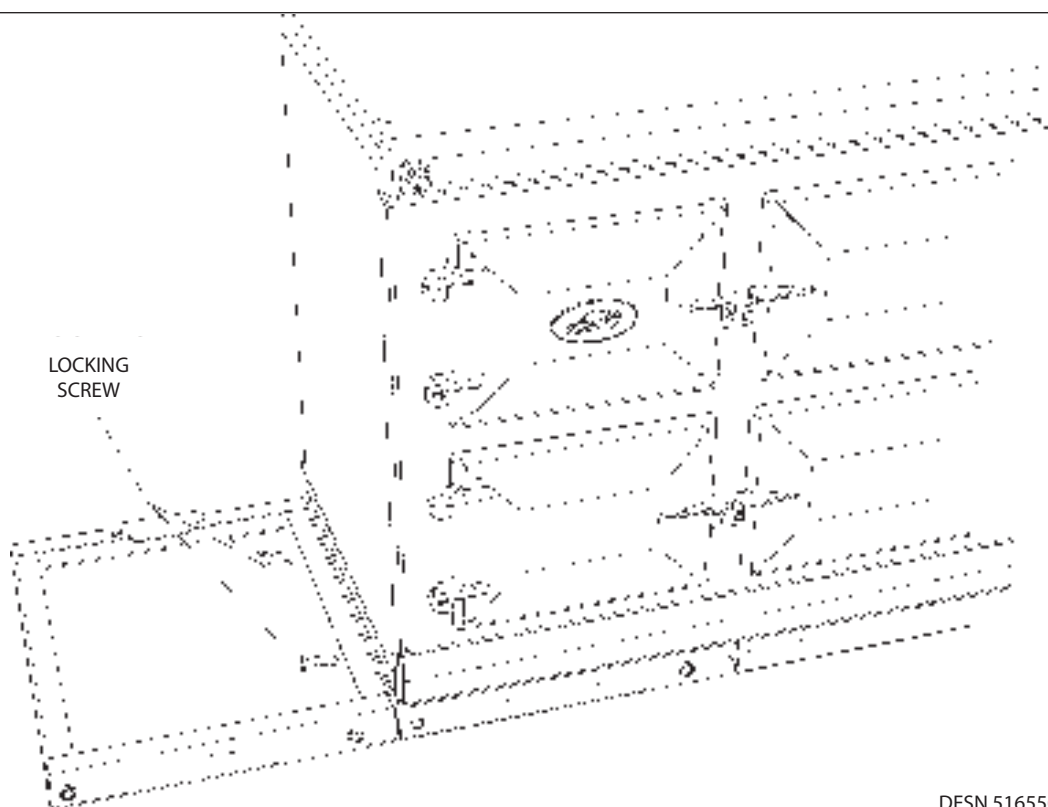

Fig. 5.4
3. Attach hotcupboard plinth to the AGA eR7i plinth using M6 screws and washers provided (**Fig. 5.4**). Attach locking screw into plinth.